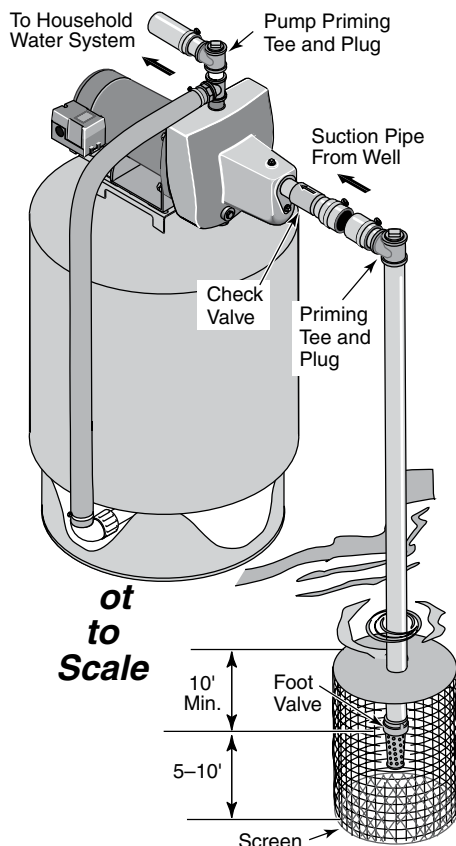

Figure 3: Surface Water Installation
INSTALLATION FOR SURFACE WATER (Figure 3)
- Step 2. Assemble a foot valve and suction pipe (see Figure 3). Make sure that the foot valve works freely. Use PTFE pipe thread sealant tape on threaded pipe joints. Protect the foot valve assembly from fish, trash, etc, by installing a screen around it (see Figure 3).
- Step 4. Install a priming tee, priming plug, and suction pipe to the pump (see Figure 3). Support the pipe so that there are no dips or sags in the pipe, so it doesn't strain the pump body, and so that it slopes slightly upward from the well to the pump (high spots can cause air pockets which can air lock the pump). Seal the suction pipe joints with PTFE pipe thread sealant tape. Joints must be air- and water-tight. *If the suction pipe can suck air, the pump cannot pull water from the well.*